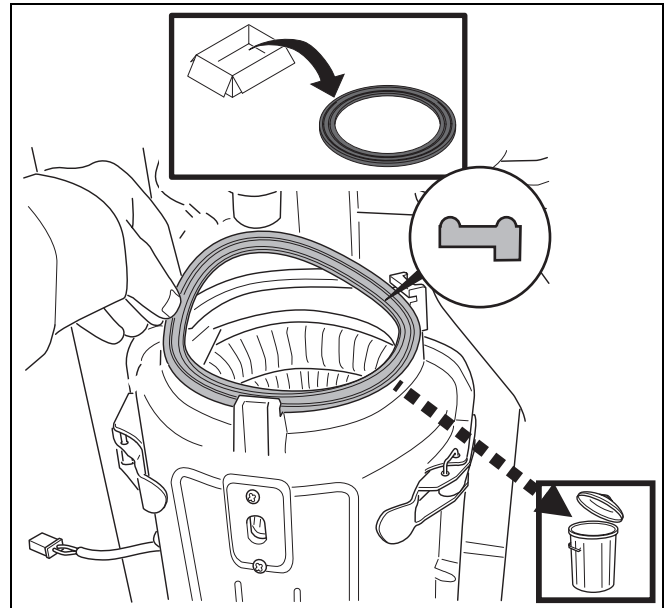

fig. 59 Replace burner seal
- Burner seal (→ fig. 59).
- Replace the seal of the heat exchanger (→ fig. 59, item 1). The seal must be placed without tension and cut at the proper length at the end of it.
- Replace the 4 o-rings (→ fig. 59, item 2), 2 pieces at each side.
- Remove the old burner seal (→ fig. 59).